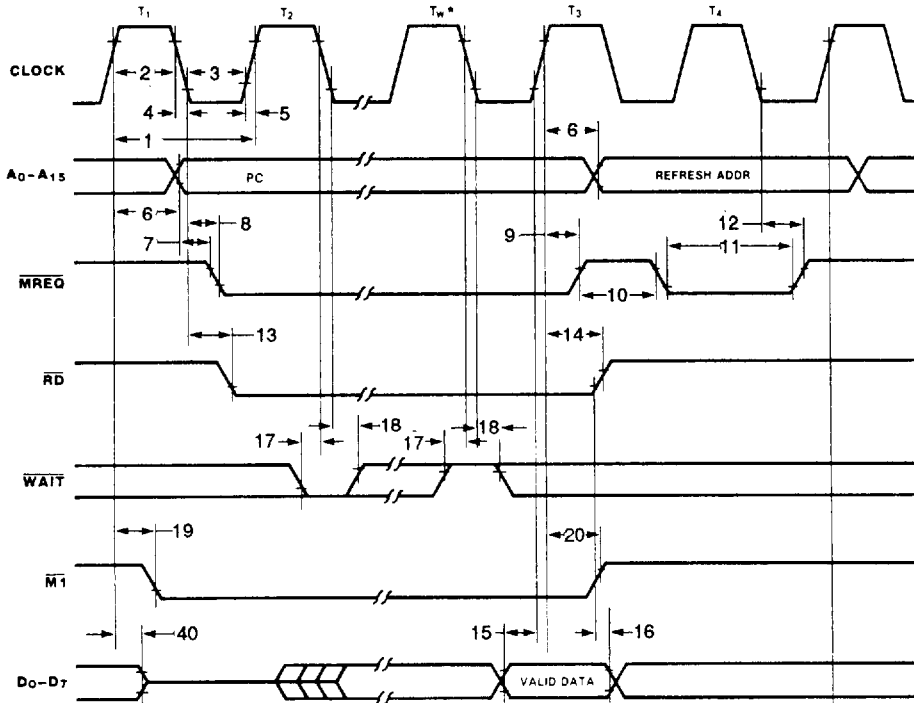

Figure 16 Instruction Opcode Fetch
Instruction Opcode Fetch. The CPU places the contents of the Program Counter (PC) on the address bus as the start of the cycle (Figure 16). Approximately one-half clock cycle later, \overline{MREQ} goes active. When active, \overline{RD} indicates that the memory data can be enabled onto the CPU data bus.